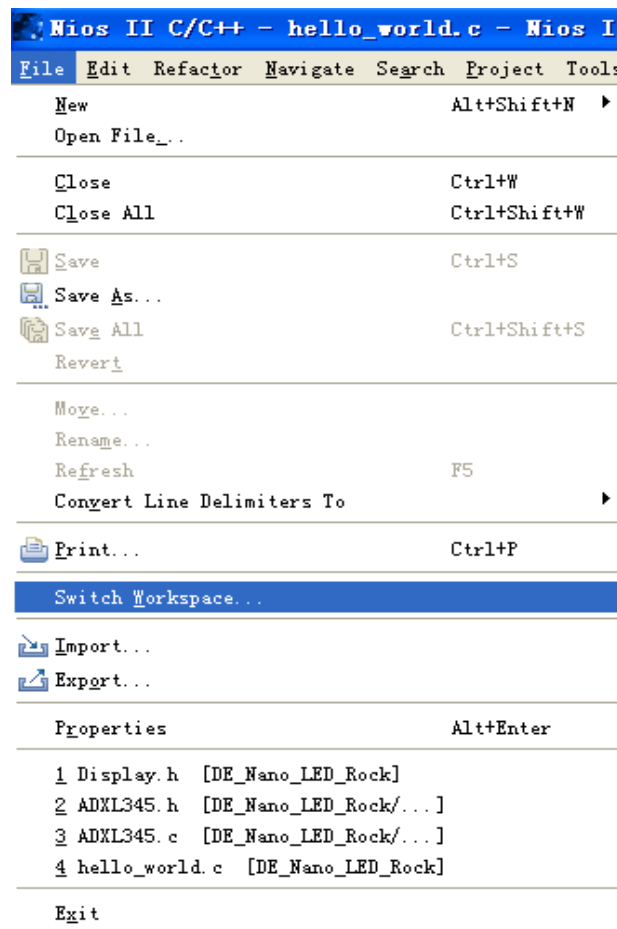
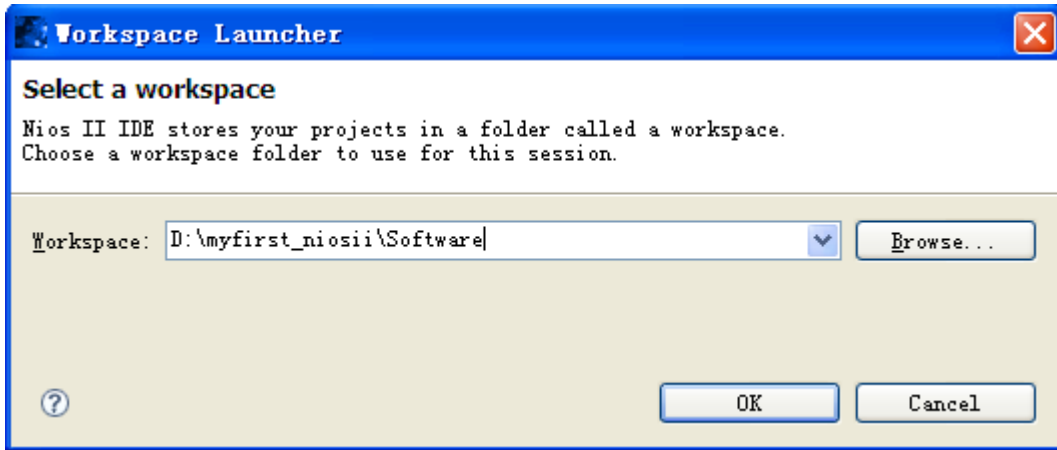

Figure 7-55 Switch Workspace (1)
Figure 7-56 Switch Workspace (2)
2. Choose **File > Switch Workspace** to switch workspace. See Figure 7-55 and Figure 7-56.